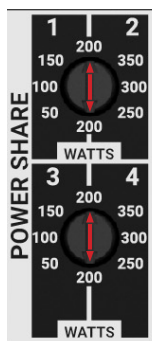

Fig. 2
- **Fig 2** - CLA804 Power Share selection arrow is set to 200W CH 1 / CH 2 and 200W for CH 3 / CH 4